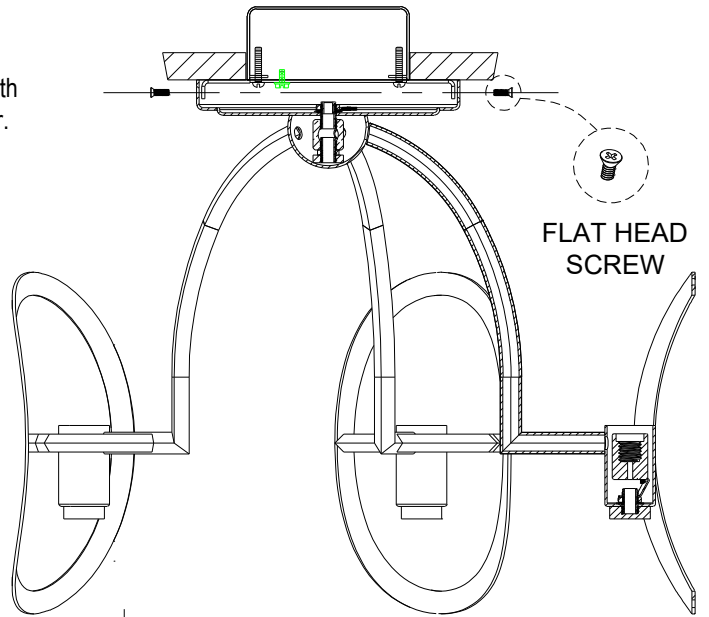

FIGURE-03
5. Pull up & attach the fixture to the mounting ring with wing using flat head screws. (SEE FIGURE-03)